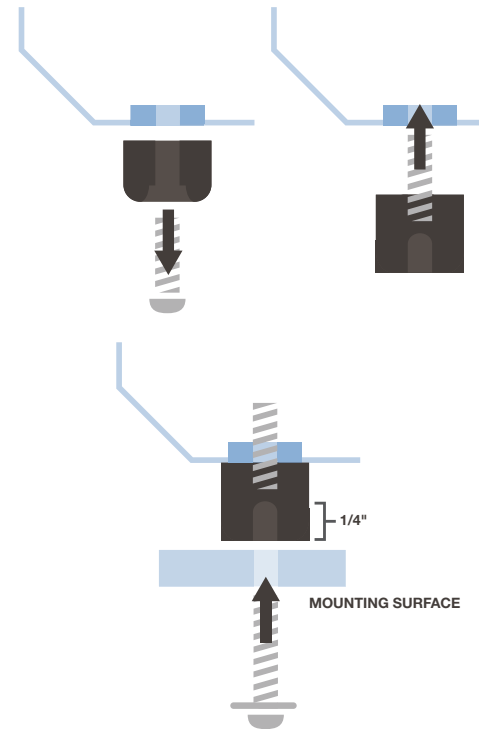

Figure 4-1: Feet Removal & Replacement
- Step 6.** Remove standard feet (Figure 4-1)
See **Figure 4-1** to reference necessary thread engagement and adjust screw length based on mounting surface thickness.